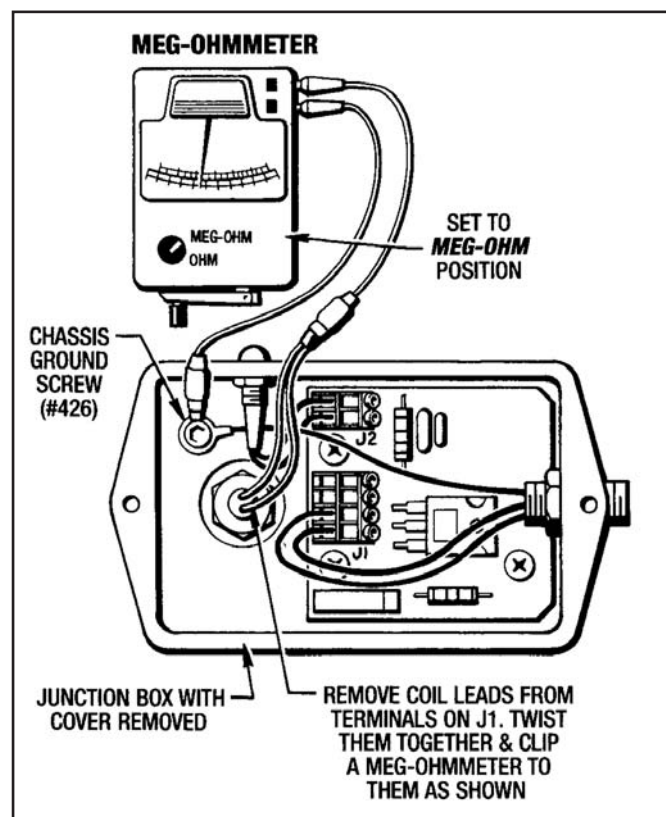

Figure 6.2 - Coil Current Leakage Testing
Connect (1) alligator clip to both Coil Leads and the other one to Chassis Ground Screw (#426). (See *Figure 6.2*)